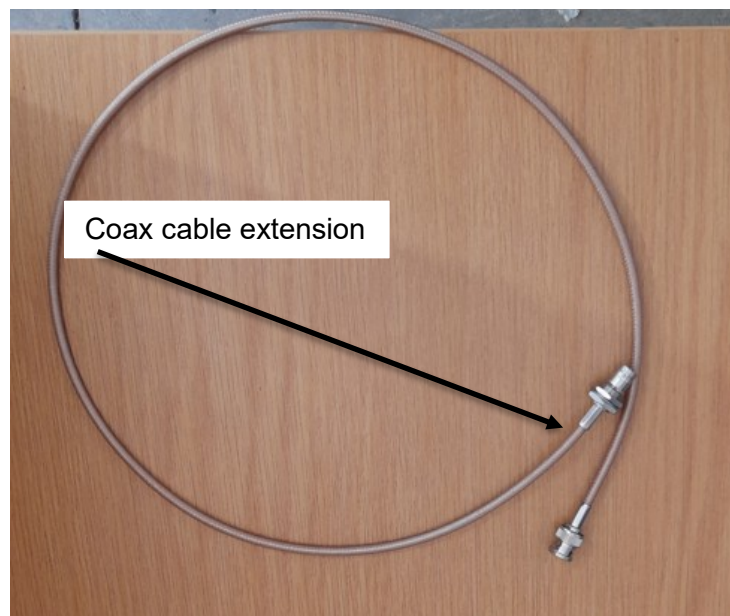

Figure 32: Coax cable extension of 500mm to make it 3070mm from the old one.
- Step 3: Use the supplied coax cable extension in Figure 32 to extend the existing one (EC-HNS-015-X-G-0)